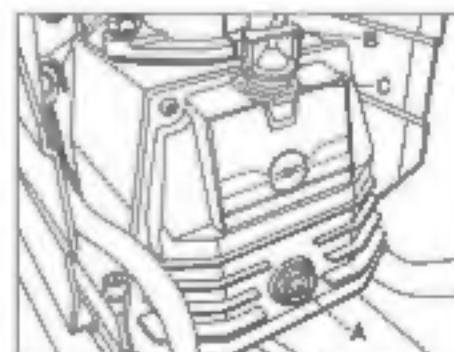

FIGURE 8
To change oil, oil must be drained from the crankcase by removing oil sight glass (A) Fig. 8. Drain oil into a small receptacle and replace oil sight glass. To fill the crank case with oil, first unscrew and remove breather cap (B), pour approximately 300ml of air compressor oil (SAE 10W30 or SAE 10W20 non detergent oil) into crankcase oil opening (C) until the oil level reaches the center red dot on the oil sight glass. Retighten breather cap (B).